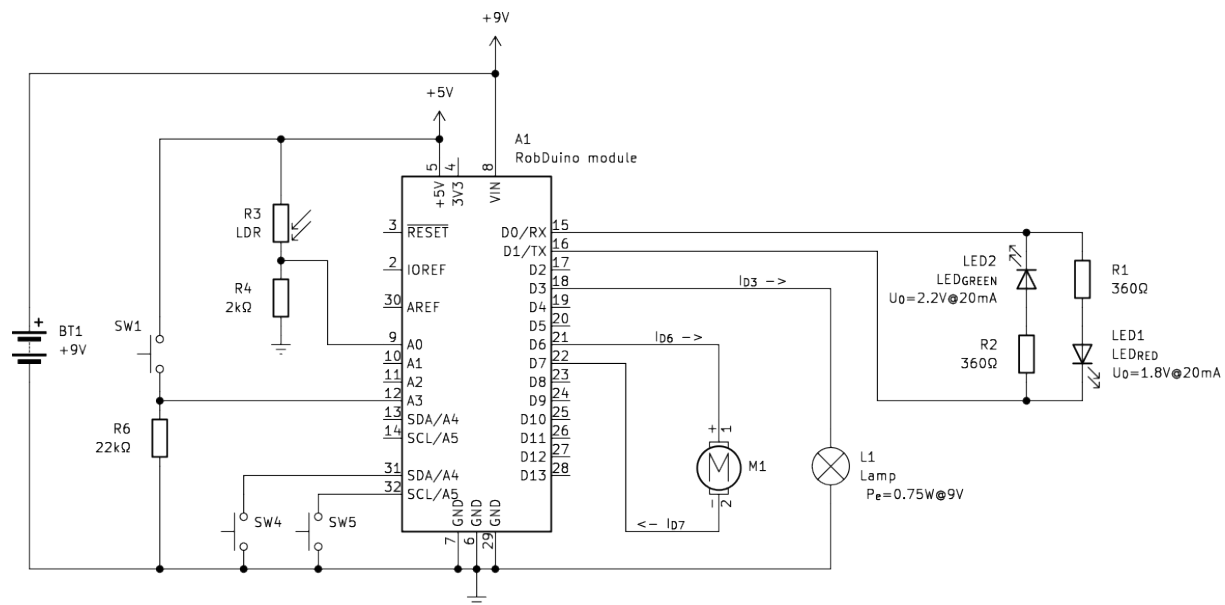

Figure 4.3: Example of typical electrical scheme of robotic device with one degree of freedom.
1. Consider a simple robotic arm that uses a DC motor for movement (fig. 4.3). If the motor has a resistance of 20Ω and is connected to a 9V power supply, Ohm's Law can determine the current flowing through the motor: